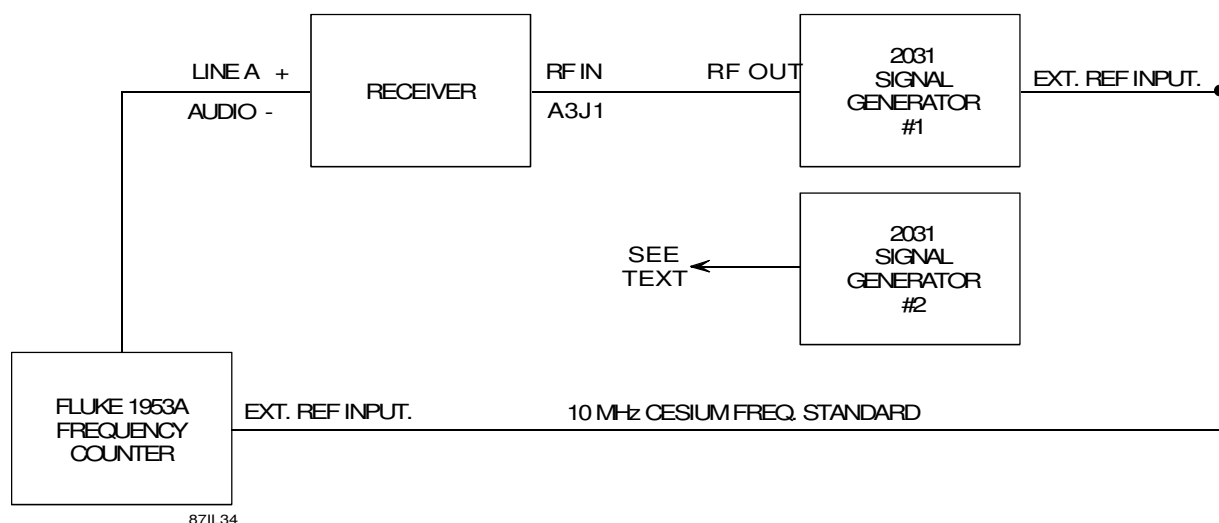

Figure 7-3. Reference Frequency Timebase Accuracy Performance Test Equipment Connection
- Connect the WJ-8711A Receiver and test equipment as illustrated in **Figure 7-3**. Apply power to the receiver and test equipment and allow a warm-up period of at least 30 minutes before proceeding with the timebase testing.